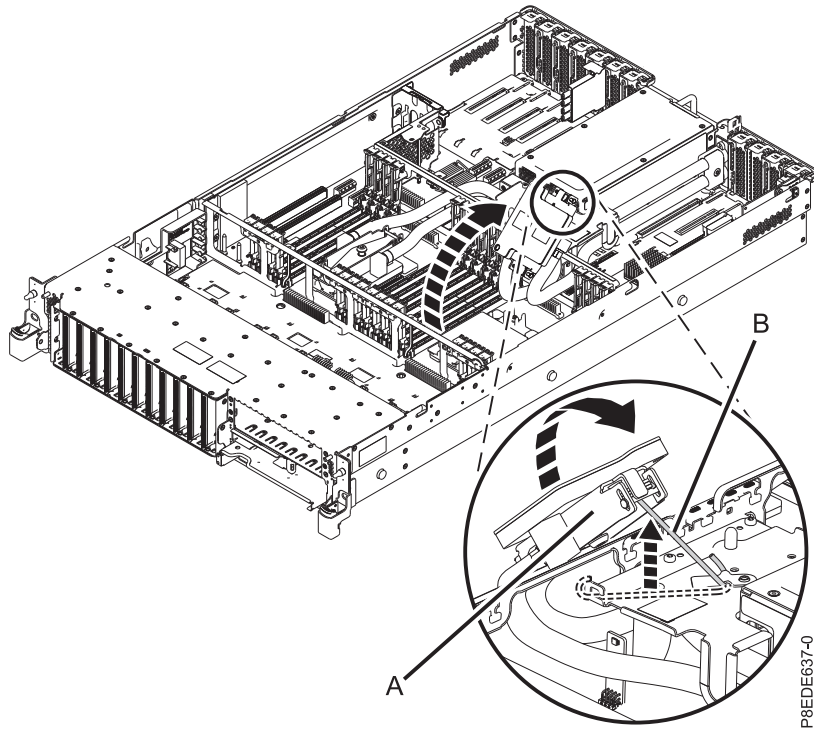

Figure 27. Removing the cold plate
- d. Lift the cold plate (A) off the system processor that you are removing and attach it to the service hook (B) as shown in Figure 27 on page 28.